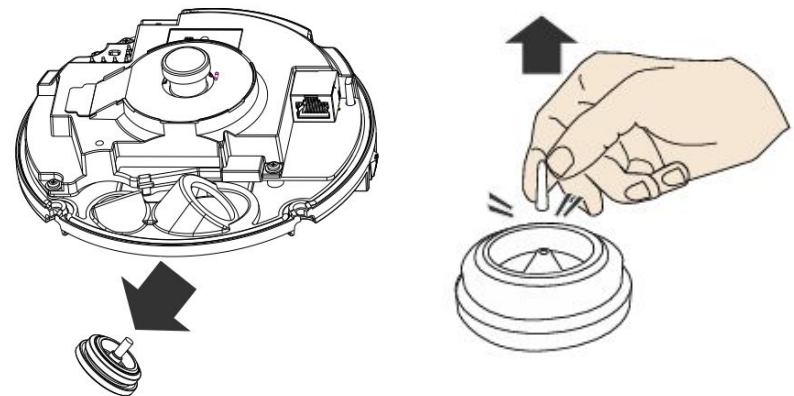

Figure 1-4
Step 4 Remove the grommet located on the bottom side of the camera base, then snip off stopper plug. See Figure 1-4.